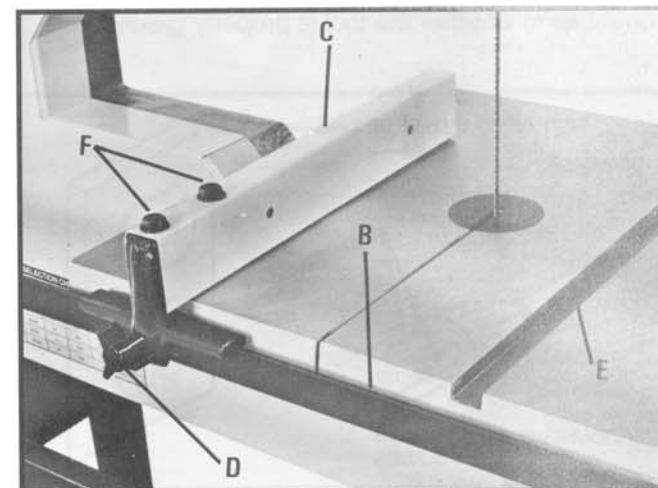

Fig. 9
3. Assemble rip fence (C) Fig. 9, to guide rail (B) and tighten clamp knob (D). **NOTE:** The rip fence may be positioned either to the right or to the left of the saw blade.
IMPORTANT: The rip fence (C) Fig. 9, should be parallel to the miter gage slot (E). If it is necessary to make an adjustment, loosen two hex head screws (F) Fig. 9, and adjust body of rip fence so that it is exactly parallel to the miter gage slot (E). Then tighten two hex head screws (F).